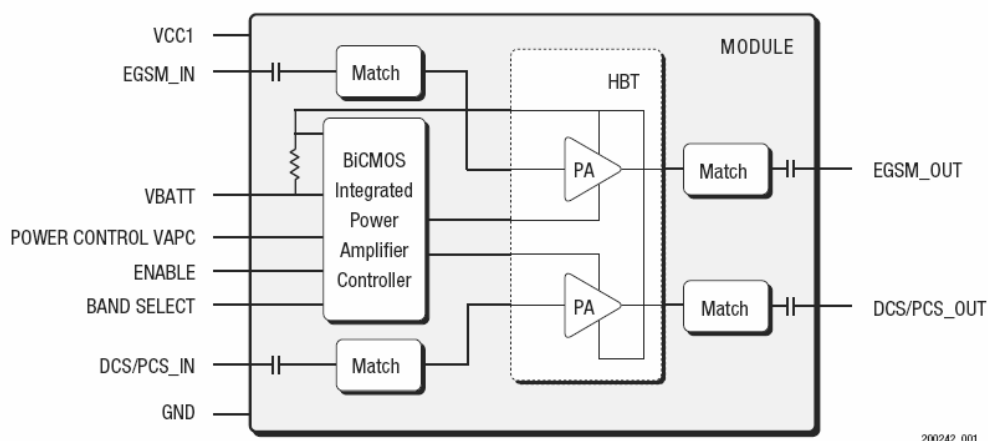

Figure 3.5.6-1 GSM PA functional block diagram
RF input and output ports of the SKY77318 are internally matched to a 50  $\Omega$  load to reduce the number of external components for a quad-band design. Extremely low leakage current (2.5  $\mu$ A, typical) of the dual PA module maximizes handset standby time. The SKY77318 also contains band-select switching circuitry to select GSM (logic 0) or DCS/PCS (logic 1) as determined from the Band Select (BS) signal. In Figure 3.5.6-1 below, the BS pin selects the PA output (DCS/PCS OUT or GSM900 OUT) and the Analog Power Control (VAPC) controls the level of output power.